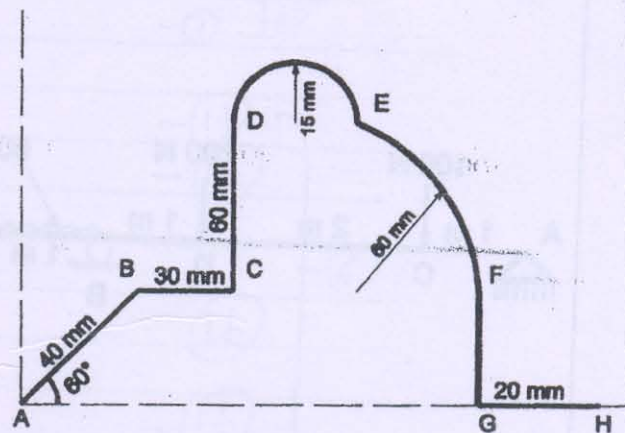
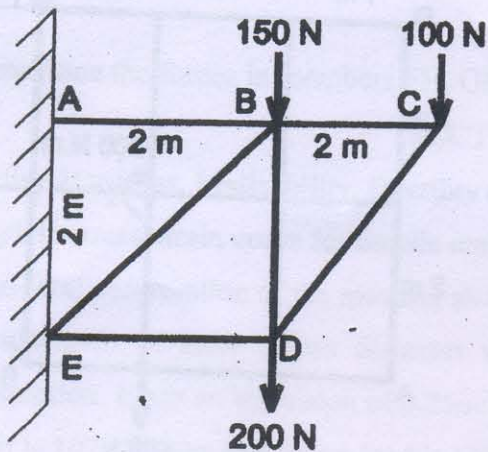

Figure 6
Figure 7
- (c) Locate centroid for the bent ABCDEFGH with respect to the axis shown in figure 6. 04
- Q. 3 (a) A ladder is 6m long and is supported by a horizontal floor (A) and a vertical wall (B). The coefficient of friction between the floor and ladder is 0.25 and between the wall and the ladder is 0.4. The weight of the ladder is 200 N and acting at the middle. The ladder supports a vertical load of 900 N at a distance 1m from top i.e. from B. Determine the least value of inclination of ladder with horizontal (θ) which the ladder may be placed without slipping. 07
- (b) Find forces in all members of the cantilever truss shown in figure 7. 07